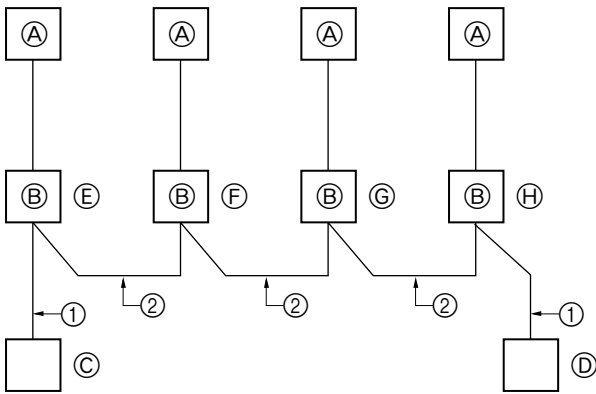

Fig. 12-1
12. System control (Fig. 12-1)
- ① Indoor controller board.